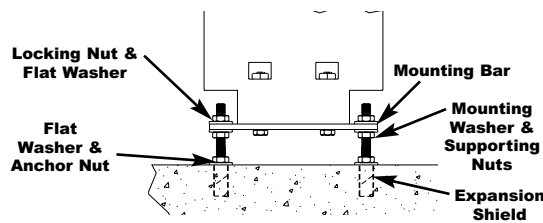

FIGURE 5
- Insert expansion shields or other floor fastening and position 3/8" threaded rods, each secured with a flat washer and anchor nut at floor level. See figure 5.
- Level pilasters from one compartment to the next by adjusting support nuts on the threaded rods. See figure 5.